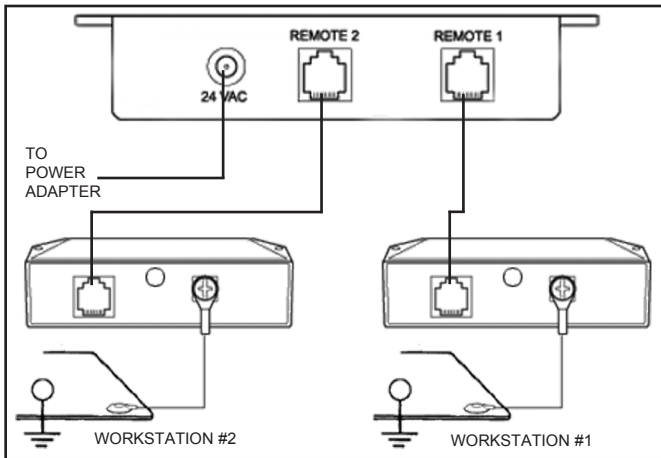

Figure 4. Wiring connection instructions for the 19246 / 19247 monitor control unit.
Figure 4 shows the monitor control unit as it is viewed from the rear, with the work surface wiring in place.
1. Use the rear phone jack connections and connect the Satellite Remote Units to the base unit with the phone cables. See Figure 4 for wiring connection instructions.
4. Confirm that work surface surface resistance is 1×10^7 ohms or less. Connect the ring terminal end of the work surface cord included with the unit to the screw on the back of the satellite. Snap the other end to the work surface grounding point as shown in Figures 4 and 5.